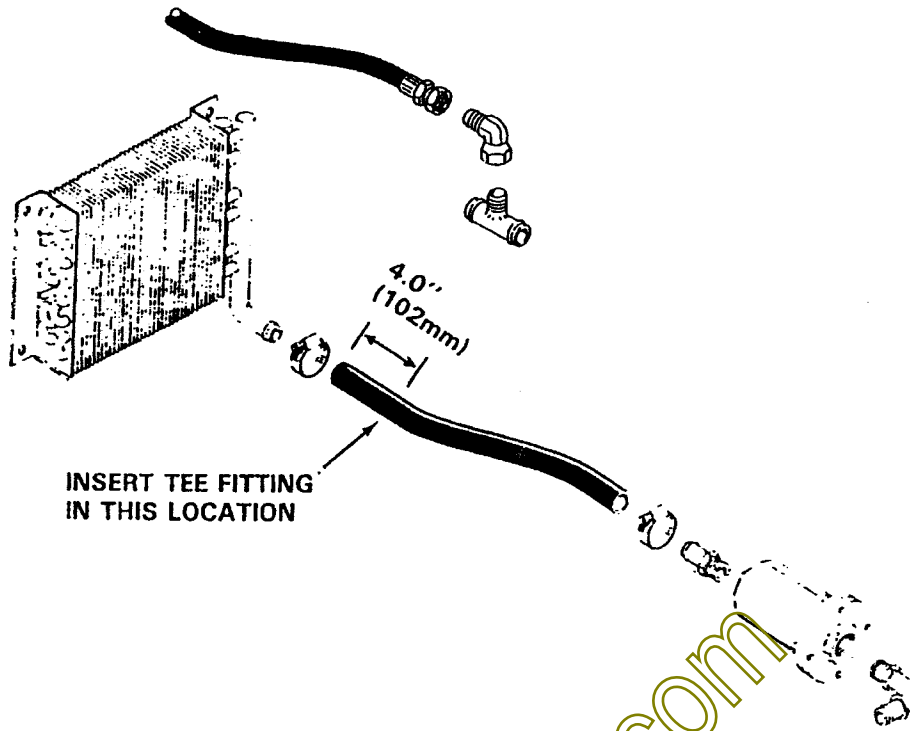

FIGURE 7 - Tee Installation Location
2. Loosen clamps and remove hose between hydraulic filter and oil cooler. (Figure 7)
3. Measure 4.0'' (102mm) from rear end of hose and mark this position. Cut hose at mark and insert tee fitting at this location between both ends of hose. Position new clamps onto hoses at tee but do not tighten at this time. (Figure 7)